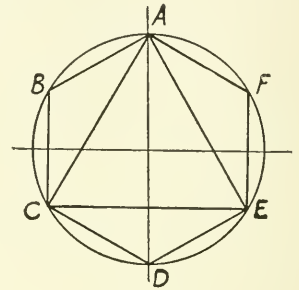

Fig. 618
23. To inscribe a hexagon or an equilateral triangle in a given circle (Fig. 618).—With the radius of the circle describe a succession of arcs cutting the circle in the points A, B, C, D, E, F. Join these points